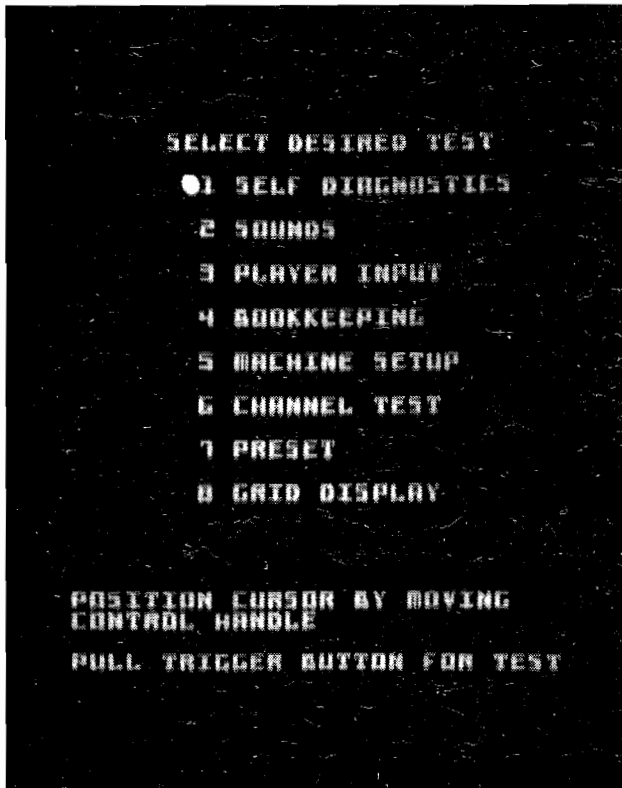

Figure 3-2 Self-Test — Menu
The Self-Test mode has eight (8) major categories as illustrated by Figure 3-2.